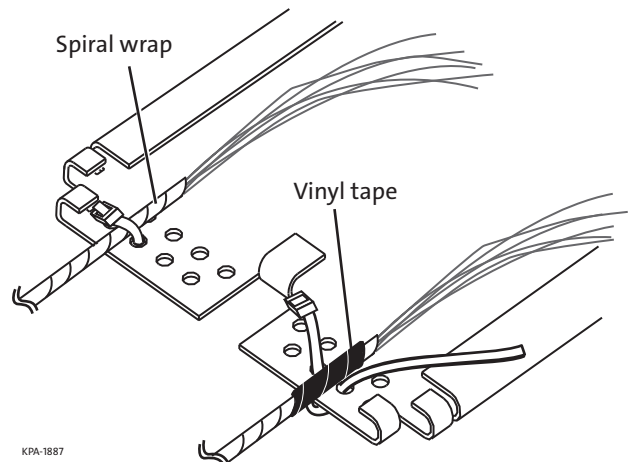

Figure 13
Step 2: Wrap up to six individual fibers in 3/16-in diameter spiral wrap (Figure 13). If desired, the spiral wrap can be wrapped with vinyl tape.